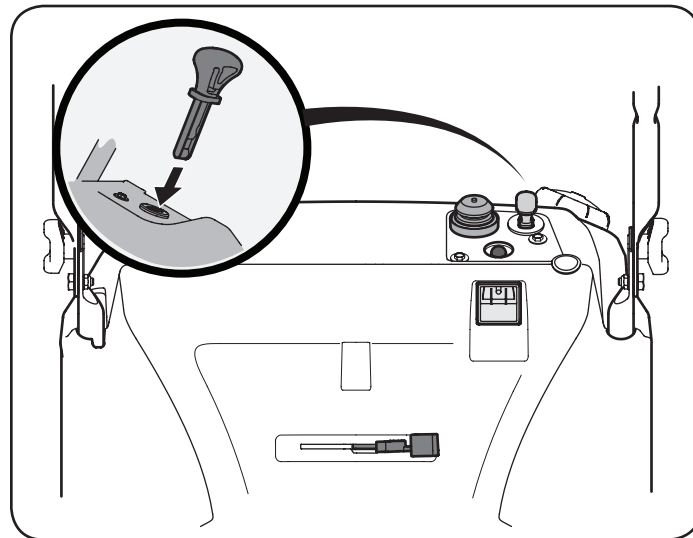

Figure 2
2. Insert ignition key into slot. Make sure it snaps into place. Do not attempt to turn the key. See Figure 2.